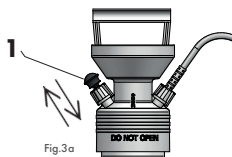

Fig.3a
To de-pressurize the tank (Fig. 1/pos. 6), pull the head of the safety valve (Fig. 3a/pos. 1) and keep it pulled for at least 10 seconds, until pressure has been completely released.
DE Screw in the pump and perform several piston rod movements (Fig. 3c) to make the safety valve (Fig. 3a) open automatically. Remember to keep the connection
FR (Fig. 3a/pos. 1) will go up (the valve will open) accompanied by the sound of escaping air.
Move the unit to its place of operation. When moving the piston rod (Fig. 3c), keep pumping (make approximately 20 full movements), until the safety valve is activated (Fig. 3a/pos. 1). When the safety valve (Fig. 3a/pos. 1) is open, it means that the maximum pressure in the tank has been reached.